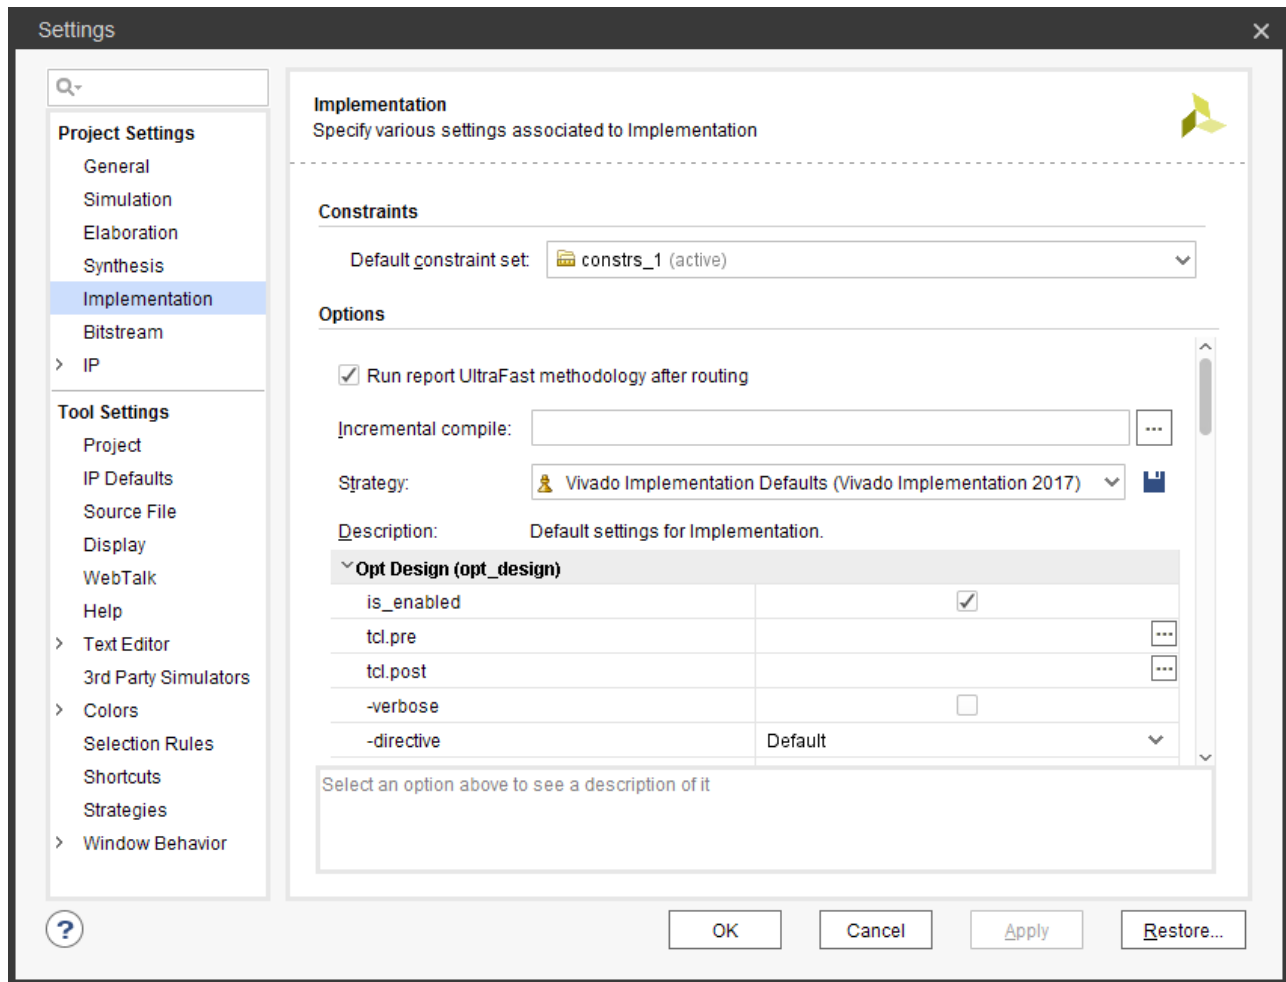

Figure 23: Implementation Settings
3. After reviewing the various synthesis options, select the **Implementation** page on the left side of the Settings dialog box, as shown in Figure 23.